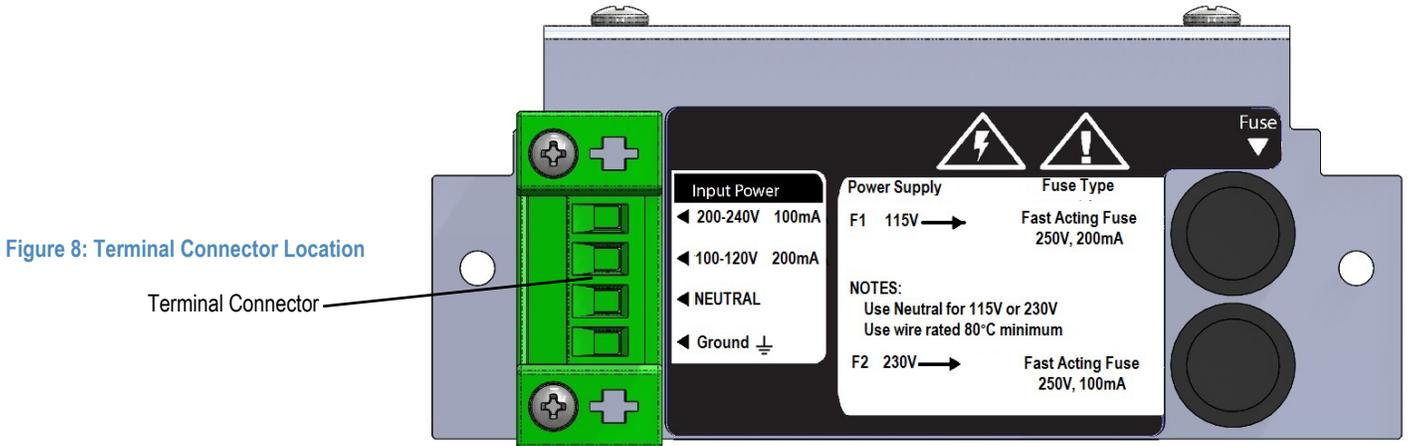

Figure 8: Terminal Connector Location
5. Wire the power cable to the green screw terminal connector from the options kit. Select correct terminal for hot conductor depending on line voltage, insert ground wire into the correct terminal and connect the other cable to the neutral terminal. Refer to Figure 8 for terminal connector location.
7. The universal power supply uses both fuses in the fuse kit. Install by inserting the fuse in the fuse holder and secure it using the twist and lock method. The fuses are clearly labeled with the appropriate voltages for your system. Refer to Figure 6 and Figure 8 for the correct fuse holder positions. Refer to the table below for fuses required.